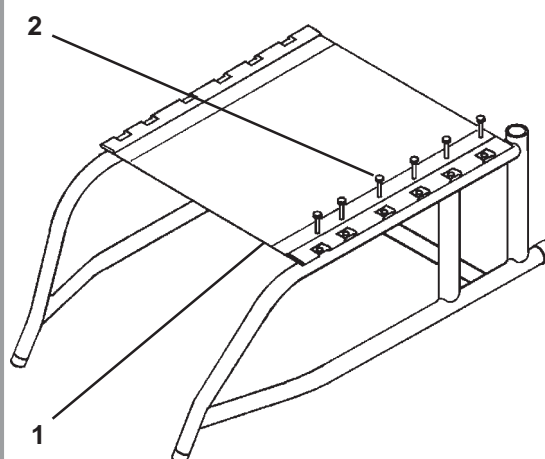

Fig. 33
The seat sling can be re-tensioned through the use of Velcro® panels (1) underneath the seat (Fig. 33). Remove the No 2 Philips screws (2) retaining the left side of the seat sling with a No 2 Philips screwdriver, re-adjust the Velcro® to bring the sling to its correct tension. Replace the screws and tighten to 5-8Nm torque.